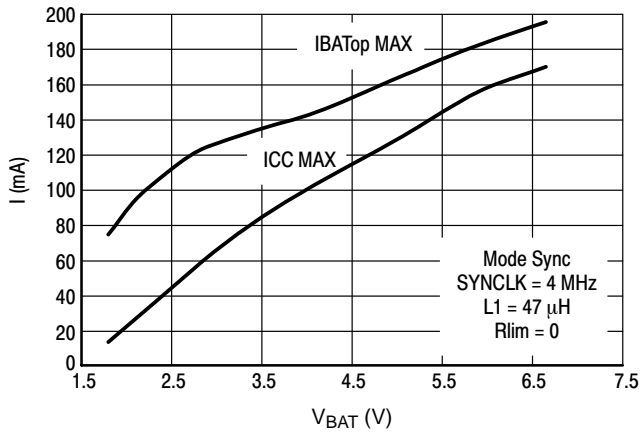

Figure 2. Maximum Battery and Card Supply Current vs. V_{BAT} ($V_{CC} = 5.0 V$)
- See Figures 2 and 3.
4. See Figures 2 and 3.